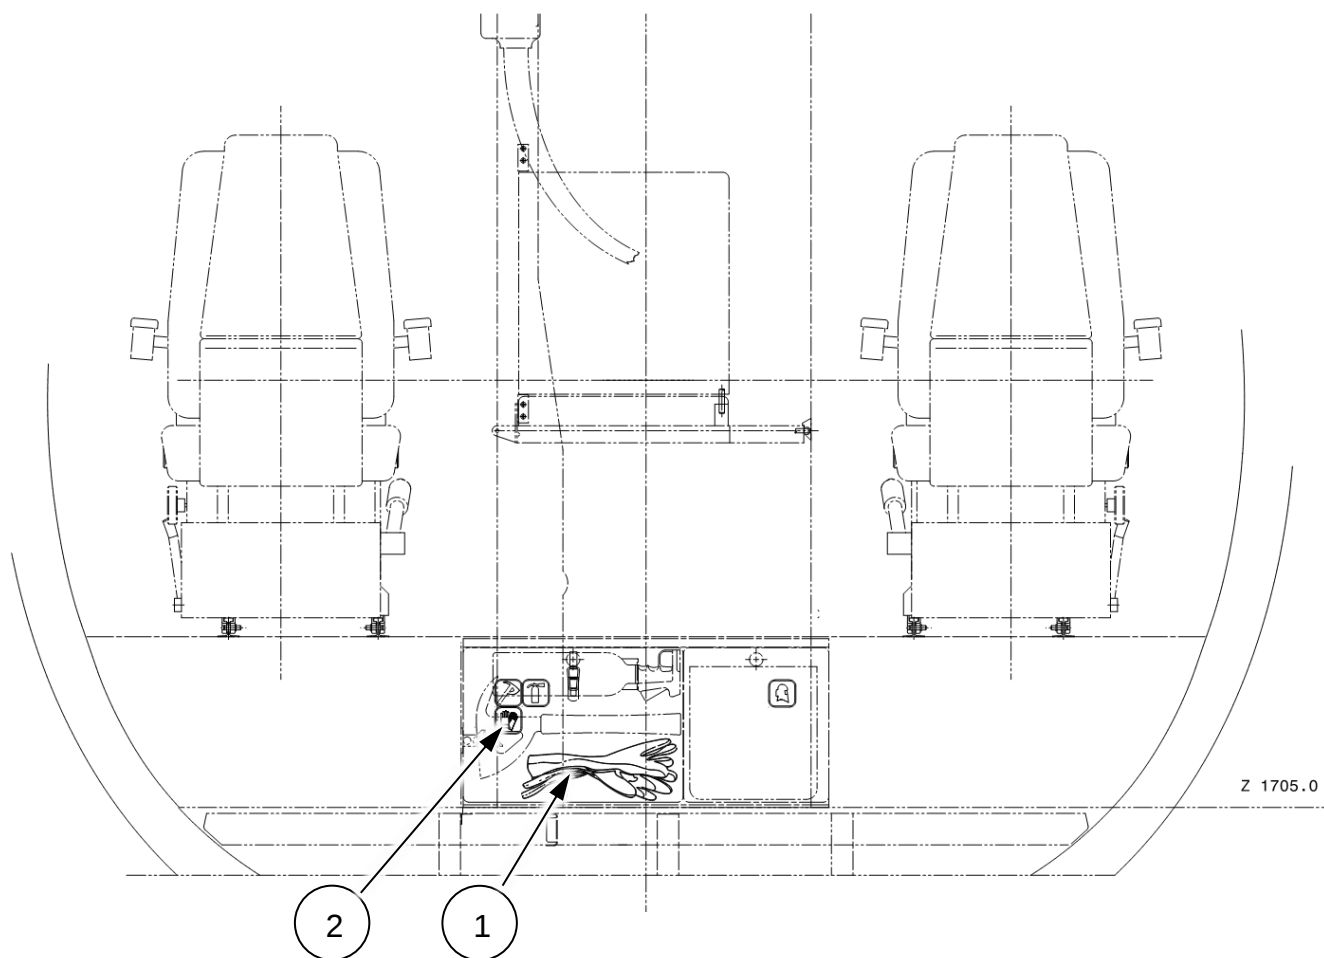

Figure 1: Installation of Fire Gloves & Placard
- 2) Apply the "FIRE GLOVES" pictogram placard P/N 001A113A3011224 (Item 2) on the LH flap door of the cockpit step. Ref. Figure 1